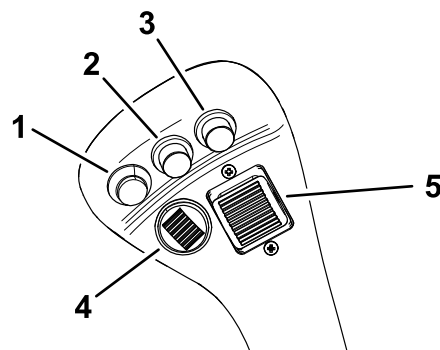

Figure 19
- To operate a hydraulic attachment in the forward direction, press the right button (Figure 19).
- To operate a hydraulic attachment in the reverse direction, press the middle button (Figure 19).
- To stop the hydraulic attachment, press the left button (Figure 19).
Rotate the extension lever forward to extend the loader arms (Figure 19); rotate the lever rearward to retract them.